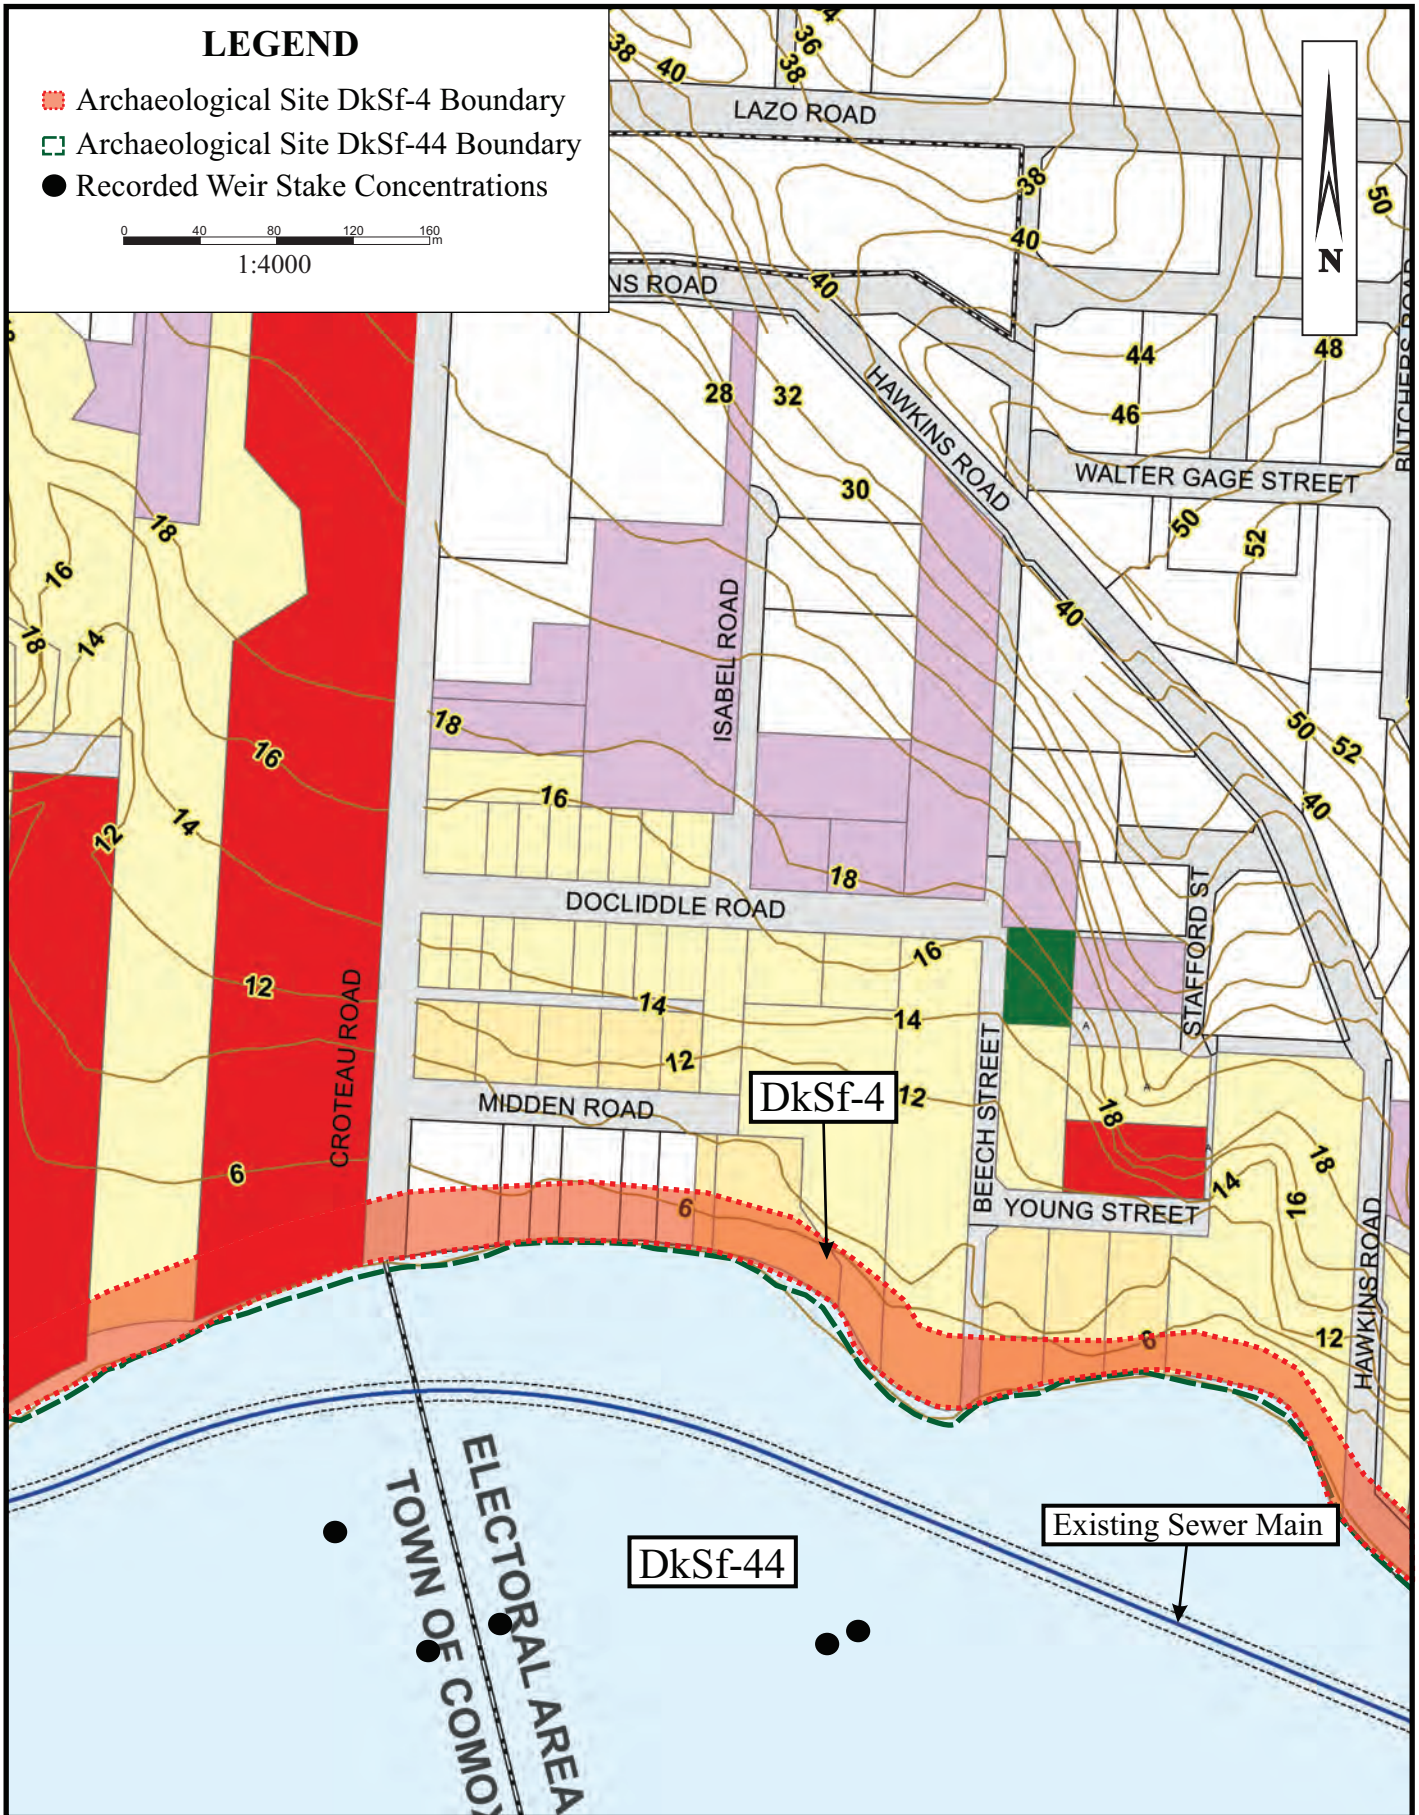

Figure 3. Location of Comox and Comox Harbour Sites
**DkSf-44:** The archaeological site encompasses much of the intertidal area enclosed by Goose Spit. The site is delineated by the shoreline and primarily intertidal area as opposed to the specific archaeological features which are present within the site. The site was divided into two separate polygons to remove a subtidal area at the HMCS Quadra dock. The features include the remains of wooden weir stakes which were used to create numerous fish trap complexes within the area (*Figure 3*).
**DkSf-4:** The archaeological site is located along the shoreline running from the Comox Marina to Goose Spit (*Figure 3*). The site is a shell midden from which artifacts, faunal remains and human remains have been recovered. At the base of Croteau Road, the site is recorded as being approximately 40 m in width.
**DkSf-44:** Due to the high tide at the time of the survey, the site could not be revisited, however Baseline personnel have visited the site during low tides previously. The fish trap complexes have been well documented and mapped by Total Station (*Figure 3, Photo 3*).
**DkSf-4:** Shell midden deposits from **DkSf-4** were noted near the base of Croteau Road. The area is generally low in elevation and swampy in nature with considerable previous disturbances and this portion of the site had been previously assessed as having a low significance (Brolly, 1993:9). A manhole, sewer system, Croteau Road and a boardwalk are all present within the site boundary (*Figure 3*).